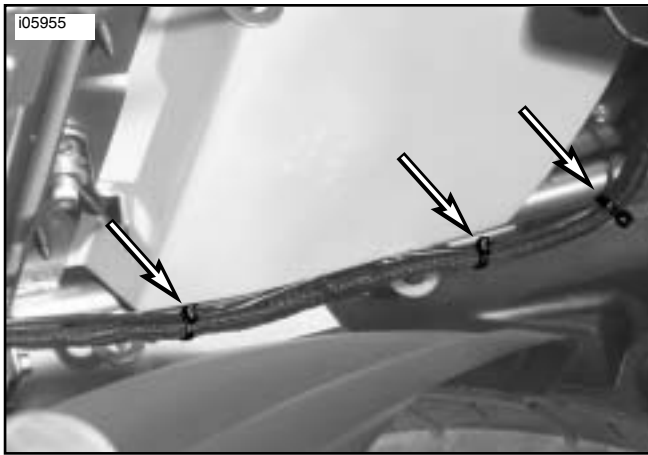

Figure 2. Securing Wire Underneath Seat (Blast)
10. See Figure 2. Route the license-plate frame wires alongside the existing wiring along the tail frame, securing with tie straps (13) from the hardware kit.